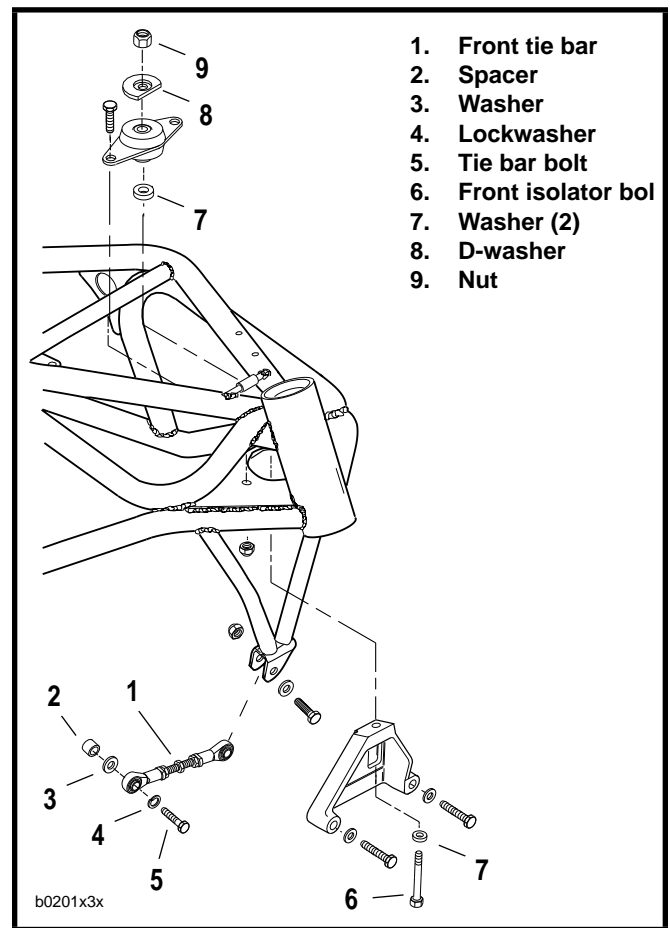

Figure 3-4. Front Tie Bar Assembly
- b. See Figure 3-4. Remove front tie bar (1) and clutch cable clamp.
19. Remove front isolator bolt (6), nut (9), D-washer (8) and washers (7).
5. See Figure 3-4. Install front isolator bolt. Attach front isolator mount with bolt (6), washers (7), D-washer (8) and locknut (9). Tighten bolt finger tight.
9. See Figure 3-4. Attach front tie bar assembly to engine. Install bolt (5), lockwasher (4), washer (3) and front tie bar spacer (2).
11. See Figure 3-4. Tighten front isolator bolt (6) to 100-110 ft-lbs (135.6-149.1 Nm).